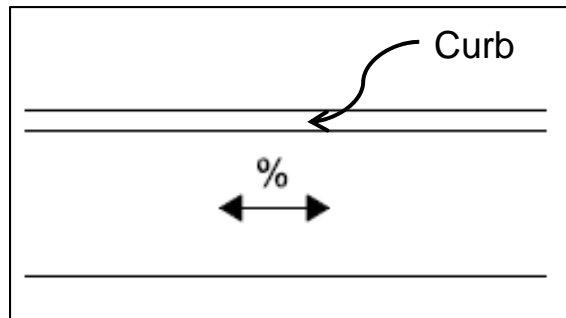

Figure 20 - Accessible Route Running Slope
- Grades (running slopes) equal the general grade established for the adjacent street or highway for access routes within the ROW (see **Figure 20**)
- Grades (running slopes) do not exceed 5% for access routes outside the ROW (see **Figure 20**)